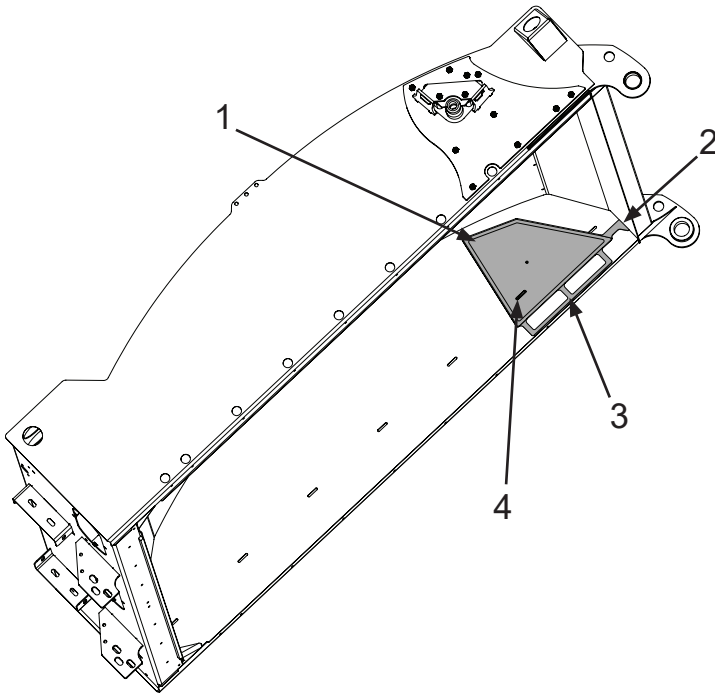

Figure 10
9. Torque the two (2) top lug bolts to 75 ft-lbs.
14. Align the cut template as shown and mark the inside shape (Figure 10, Item 1).
Notes on Figure 10: Item 2 – Foot end of cut template touches this face.
**NOTE:** Cut around the weld slot (Figure 10, Item 4) leaving the small part of the panel attached.